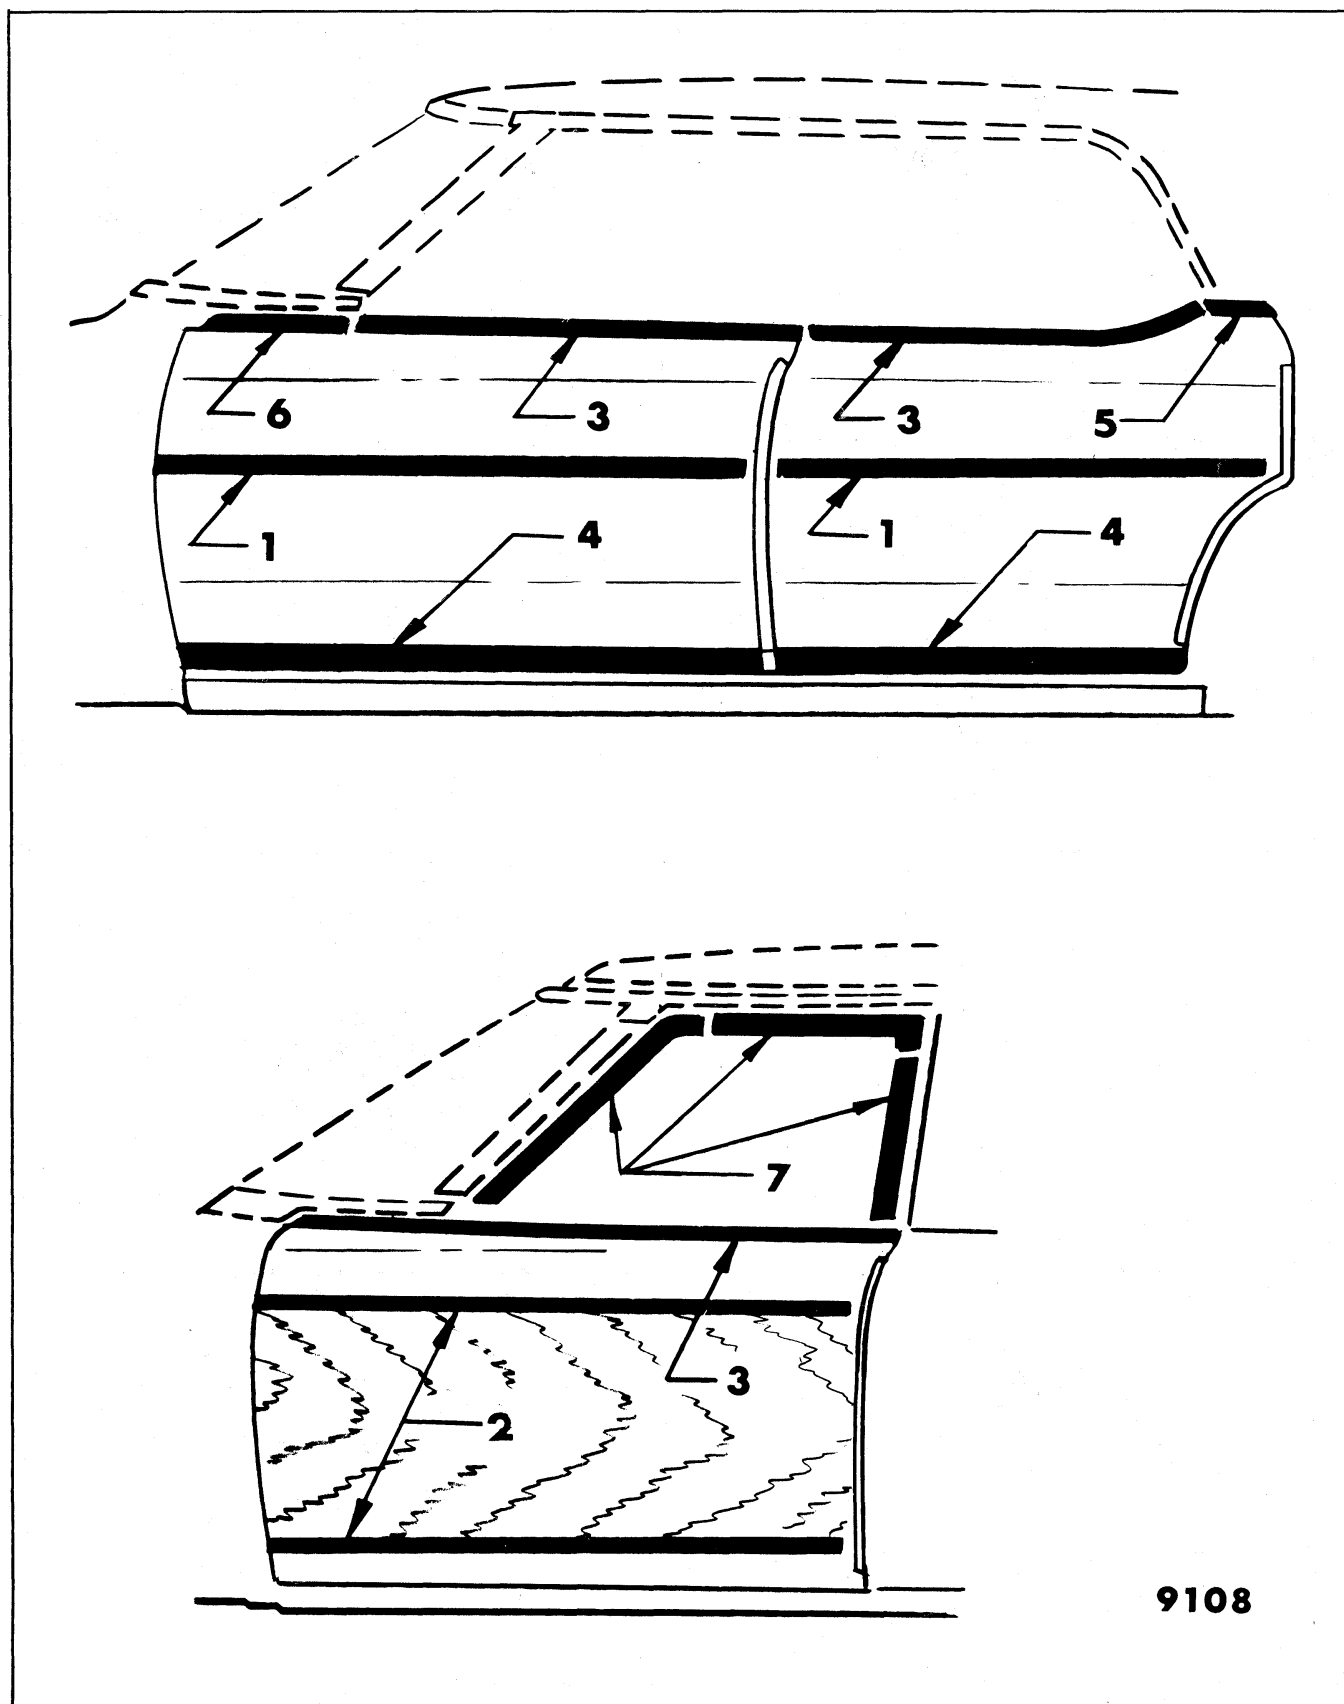

Fig. 5-17 - Typical Door Exterior Moldings
Figure 5-17 identifies all typical door exterior moldings by number. Molding installation chart (Figure 5-19) identifies molding description and specific attachment.
1. Using typical exterior molding illustration (Fig. 5-17), locate number of specific molding(s).